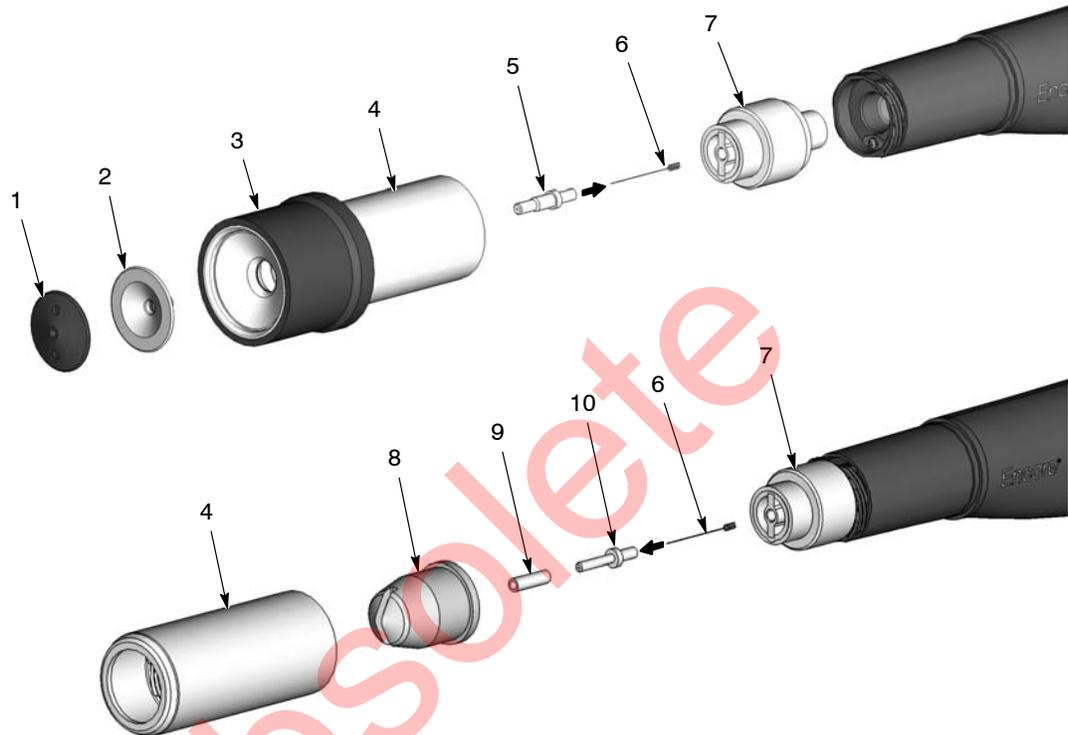

Figure 3-5 Changing From Conical to Flat or Corner Spray Nozzle
See Figure 3-5. To change from the standard conical nozzle to a flat or corner spray nozzle, you will need to order:
2. See Figure 3-5. Remove the nozzle from the gun:
**Conical Nozzle:** Unscrew the deflector cap (1), then remove the deflector (2). Unscrew the nozzle nut (4) and remove it along with the nozzle and pattern sleeve (3) from the gun.
**Flat or Corner Spray Nozzle:** Unscrew the nozzle nut (4) and remove it along with the nozzle (8) from the gun.
3. Pull the electrode support (7) out of the gun.
6. If you are using a conical nozzle, pull the pattern sleeve (3) off the nozzle nut and nozzle. Clean all parts removed with a low-pressure blow gun. Wipe the parts with a clean, dry cloth.